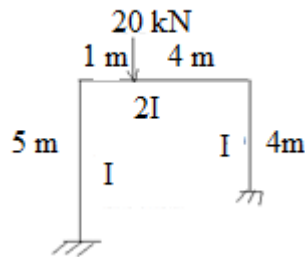

Figure:1 BL-4(CO-3) (5M)
1. a. Analyze the given frame using force method as shown in figure:1 below:
2. a. Illustrate B.M.D for the frame as shown in figure:1 using displacement method.